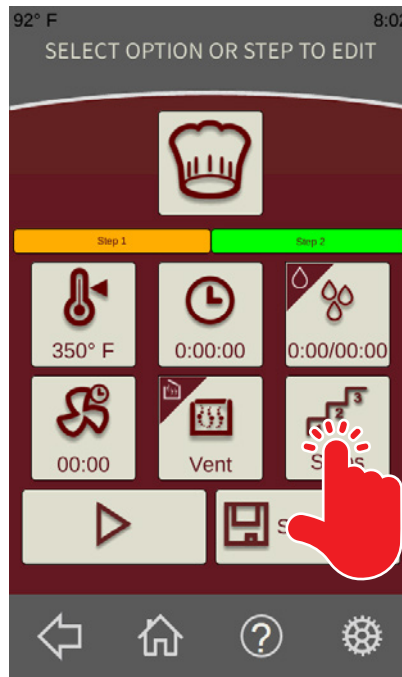

Fig. 29
1. From the **Standard Recipe Run Screen** (Fig. 29), touch the Steps button to copy an existing step in the current recipe. The **Recipe Steps Screen** should be displayed.